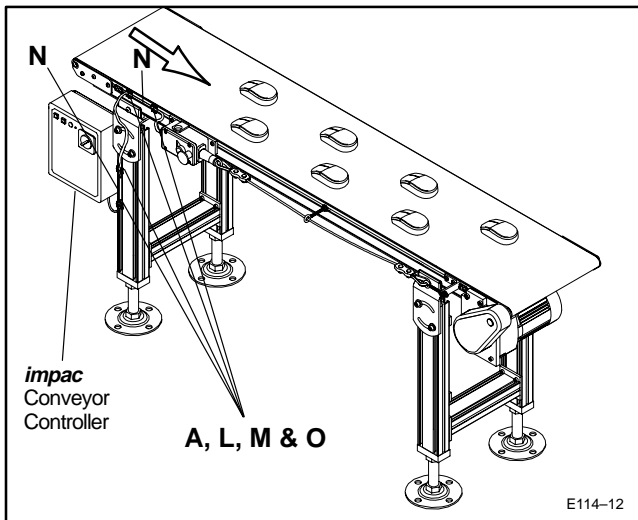

Figure 12: Pull Cord E-Stop Cable Routing to *impac* Conveyor Controller
- Figure 12 shows a typical wire routing of an E-Stop connection to an impac Conveyor Controller using the Conveyor's T-slot with both T-Slot Closure Strips and Zip Ties (O).